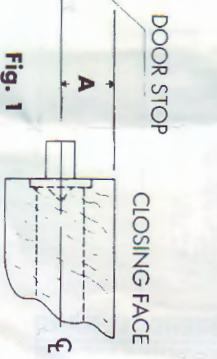

Fig. 1
- With the bolt shot out, move the door till the bolt touches the frame and mark the position of the bolt top and bottom on the frame. Draw two horizontal lines equal about the bolt position 48mm apart. Measure the distance from the bolt centre to the door's closing face and mark this dimension from the door stop on the frame (see dimension **A** on Fig. 1). Draw two vertical lines 20mm apart central about this line. Mortice out to accept the locking plate box to a depth of 22mm.